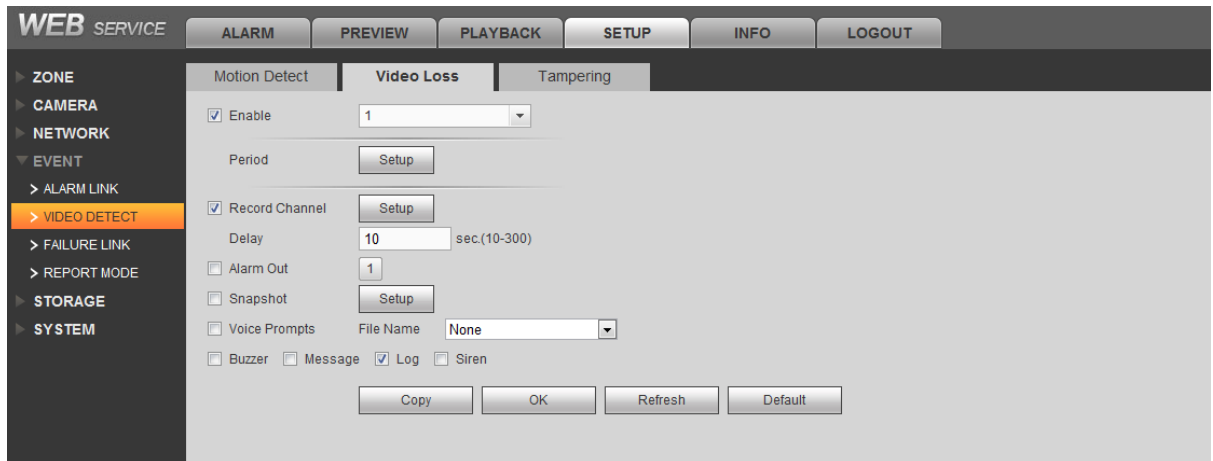

Figure 4- 15
Step 1. Select SETUP>EVENT>Video Loss. See Figure 4- 15.